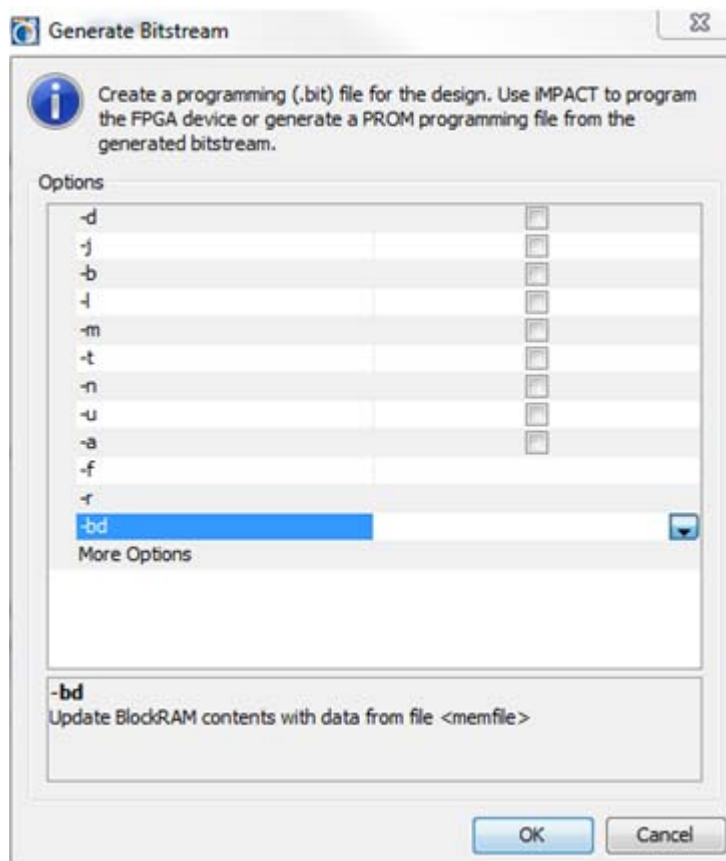

Figure 3-34: Generate Bitstream
1. In the PlanAhead tool, select **Program and Debug** from the Flow Navigator and then select **Generate Bitstream**. The Generate Bitstream dialog box opens, allowing you to specify BitGen options as shown in Figure 3-34, page 78.